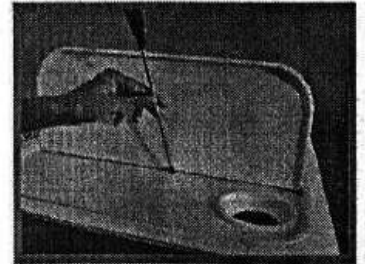

Fig9-1
- 1) Empty the tanks water, please refer to item 9.2 draining the water.
- 2) Open the tank cover board, you can use screw driver to loosen the five screws just as fig9-1 indication.